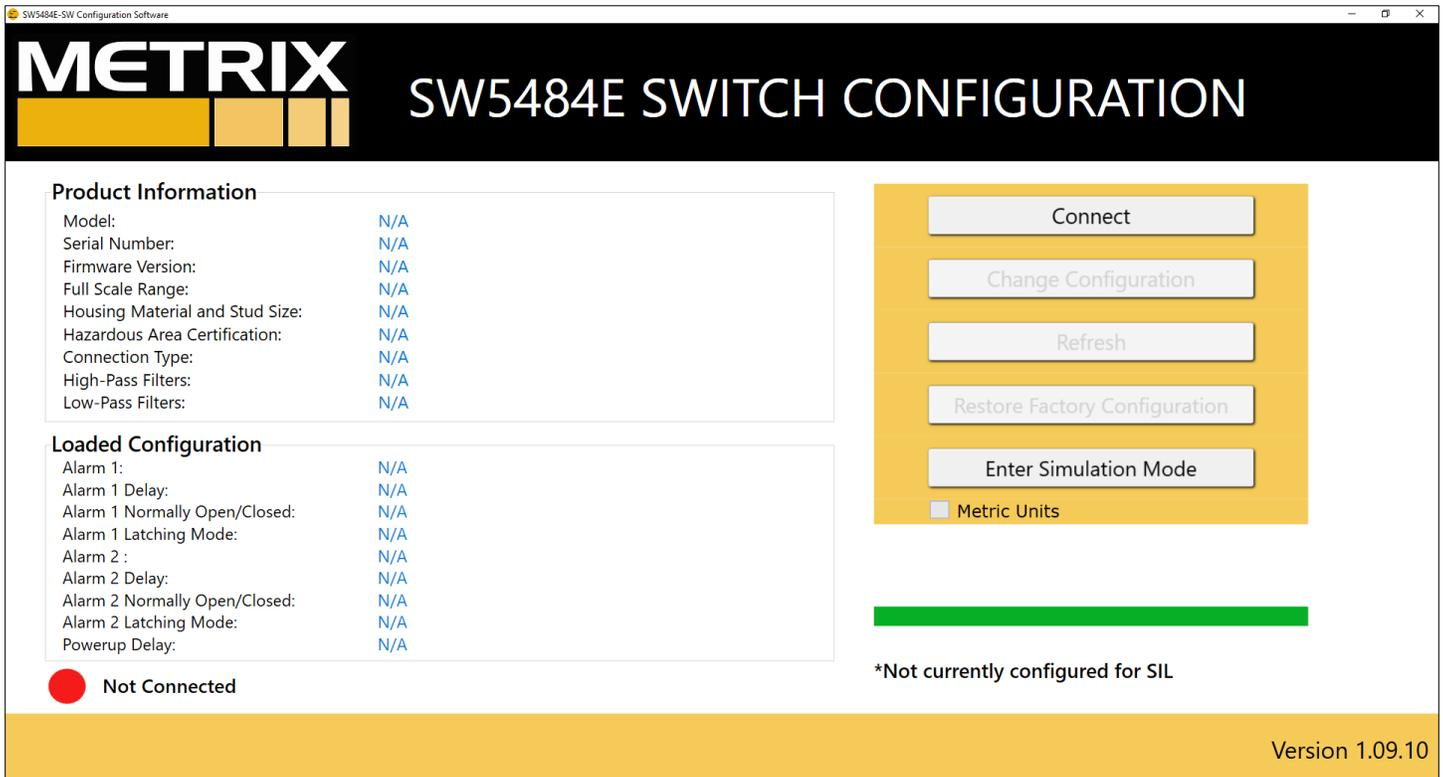

Figure 2: Communication Dongle is connected, “Connect” button is enabled.
2. Application will be displayed as seen in Figure 2.